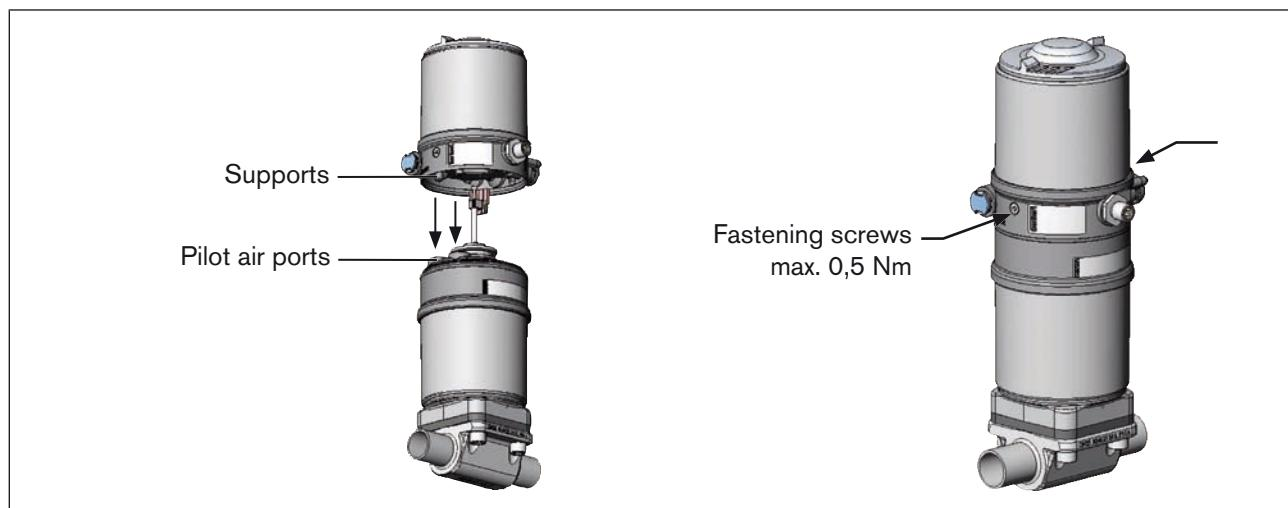

Figure 9: Installation of control head, series 21xx
2. the supports of the control head can be inserted into the pilot air ports of the actuator (see also "Figure 9:").